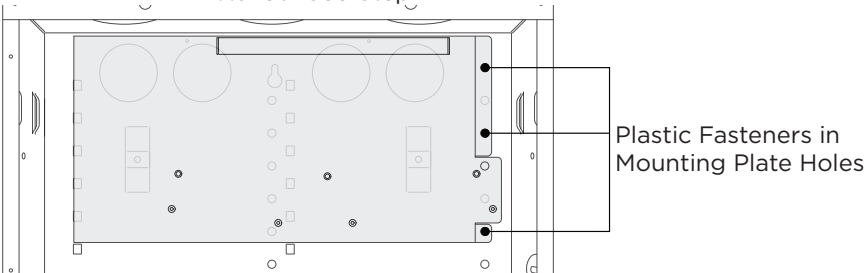

Figure 3: Secure the 351ONQ Mounting Plate
4. Rotate the mounting plate into place on the enclosure, align the plastic fastener bases with the enclosure holes and press the plastic fastener base into the holes. See Figure 3.
5. Insert the plastic fastener plunger into the base and fully seat the plunger to secure the mounting plate in position. See Figure 3.